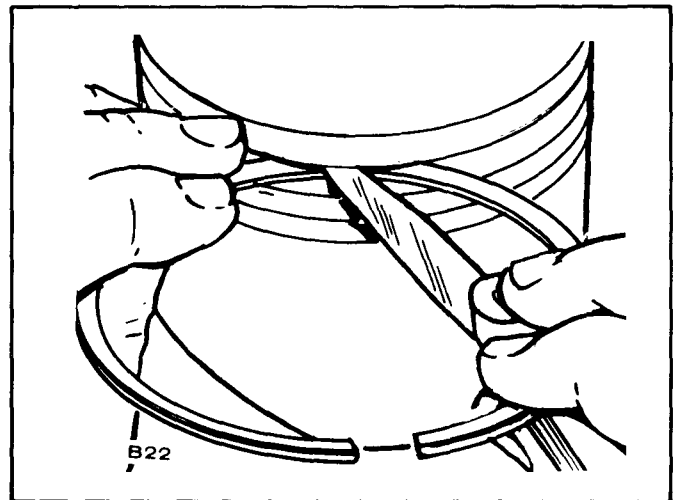

FIGURE 10. CHECKING RING SIDE CLEARANCE
- a. Inspect the pistons for fractures at the ring lands, skirts and pin bosses. Check for wear at the ring lands using a new ring and feeler gauge as shown in Figure 10. Replace the piston when the side clearance of the top compression ring reaches 0.008 inch.